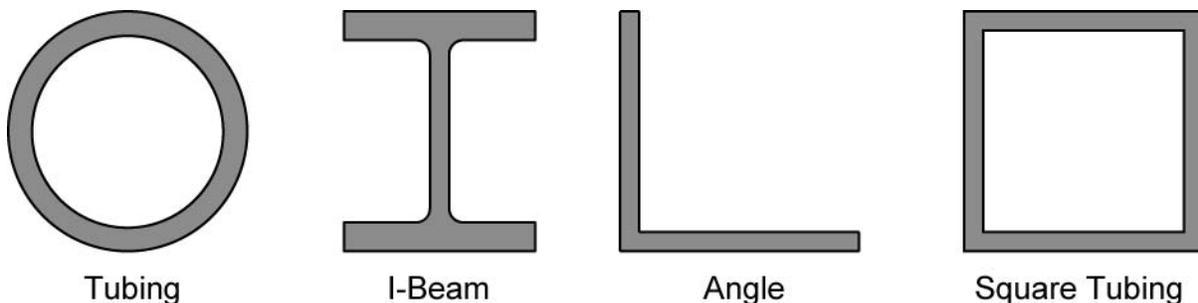

**Figure 3: I-Beam**
- A beam under bending experiences high tension and compression stresses along the outside fibers that are farthest from the neutral axis (see Figure 4). The beam material close to the neutral axis carries little of the load so it should be minimized which eliminates much of the weight. To prevent failure, most of the material in the beam must be located in the outer regions. This observation is the basis of the I-beam cross-section; the neutral axis runs along the center of the web which can be relatively thin and most of the material can be concentrated in the flanges (Figure 3).